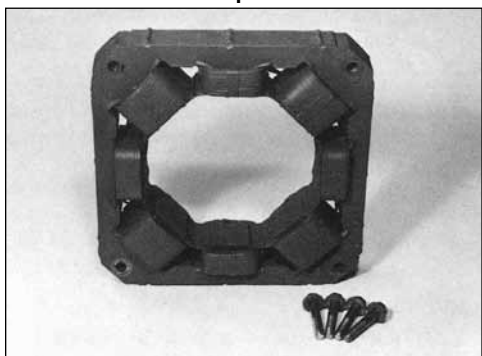

Figure 6-36
1. Clean dust and dirt from the stator winding (see Figure 6-36 and section 5).